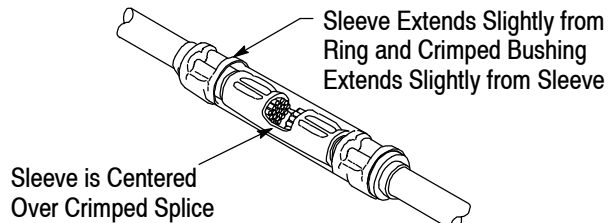

Figure 7
14. Remove the splice from the tool, and inspect the crimp according to Figure 7.